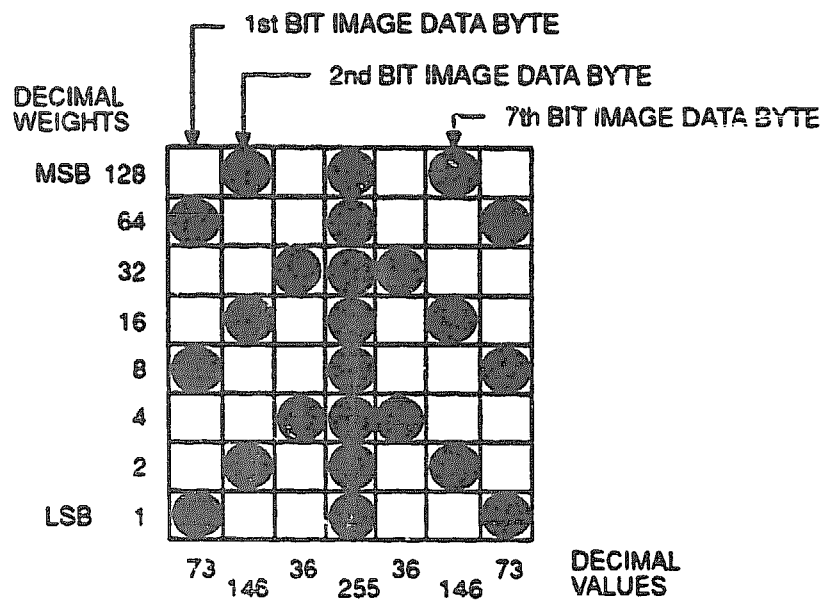
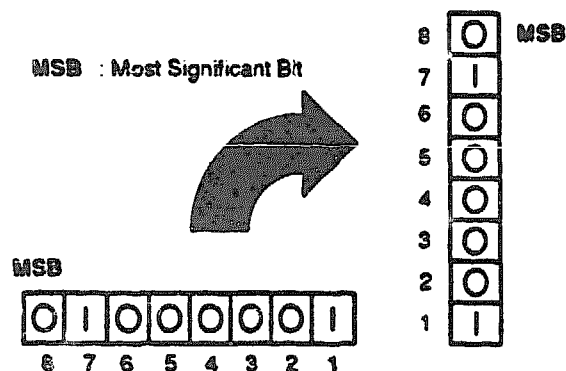
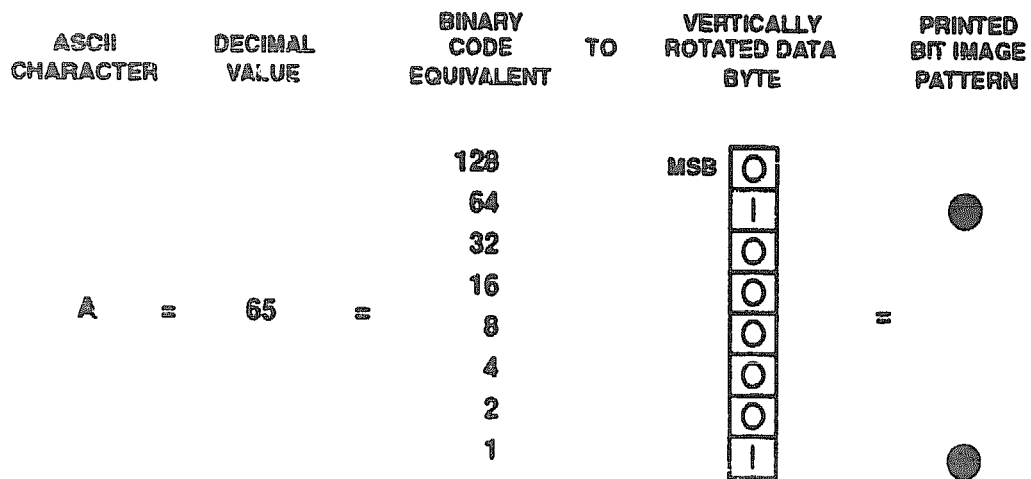

Figure 9-1. Bit Image Pattern Plan
Figure 9-2. Vertical Data Byte Pattern
Figure 9-3. Bit Image Pattern from an ASCII Character
2. Determine the decimal equivalent of each bit image data byte required to produce your pattern. (See Figure 9-1.)
The binary data byte bit pattern for the ASCII character A (hex 41, decimal 65) is pictured in Figure 9-2. If we rotate this data byte clockwise, the result is a vertical data byte pattern with the most significant bit (MSB) at the top. If we print each 1 (true) bit as a dot, the result is a bit image of ASCII character A. The relationship of the ASCII character, its decimal value, and its bit image plot is shown in Figure 9-3. All 8 bits of a data byte are used in the Correspondence (NLQ) and Data Processing (DP) print modes. The High Speed (HS) print mode uses only the six most significant bits of the data byte. Data bytes are identified by either their binary, octal, hexadecimal, or decimal equivalents. These numeric equivalents are combined to form a graphic pattern, such as that illustrated in Figure 9-1.